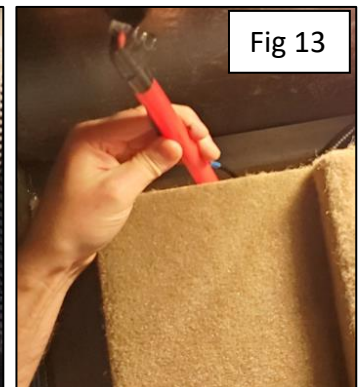

Fig 13
- D. In the compartment forward, retrieve the guide and plug. (Figure 13)